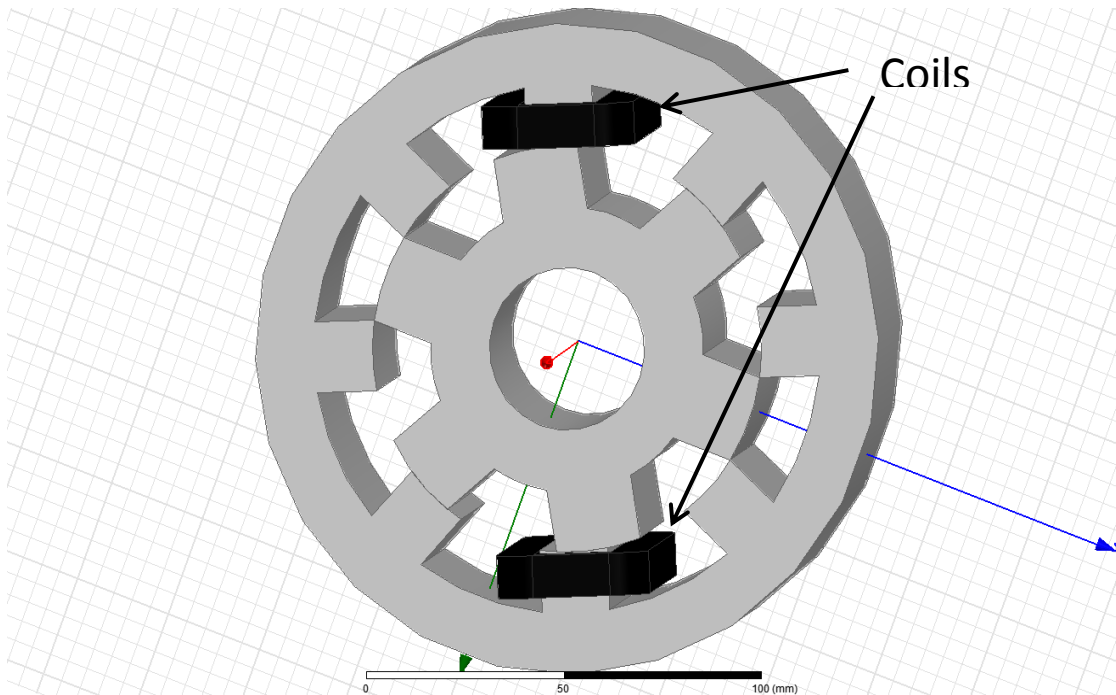

Figure Q4. The stator, rotor and the phase 1 coils of a 4-phase SR motor
4. a) A 4-phase switched reluctance motor has 8 stator poles and 6 rotor poles, see Fig. Q4 where the coils of phase 1 is shown (but not the coils of phase 2,3, and 4). Draw the phase 1 inductance versus rotor position if the stator pole angle is  $20^\circ$  and the rotor pole angle is  $25^\circ$ . The inductance at the aligned position is  $L_a$  and the inductance at the unaligned position is  $L_u$ . Draw also the phase 1 current as a function of rotor position. How many times should the phase 1 current be switched on during one rotor revolution ( $360^\circ$ )?